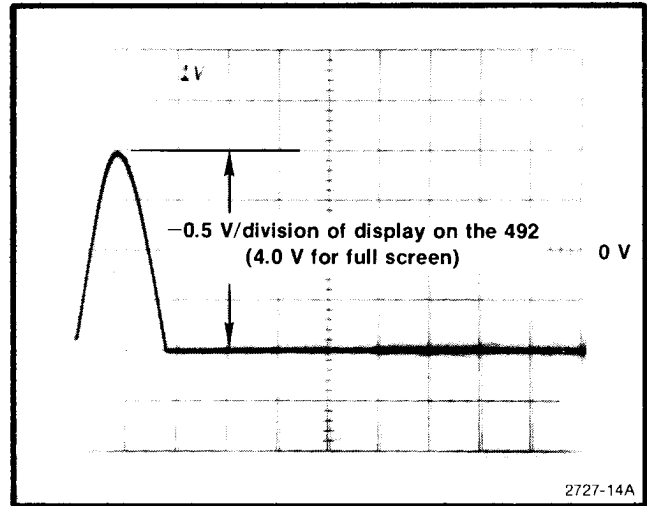

Fig. 3-21. Display of a full screen signal at the Vertical Output connector.
e. Check the vertical signal output level on the test oscilloscope. Output level should equal plus and minus 2 V for a total of $4\text{ V} \pm 0.2\text{ V}$ (see Fig. 3-21).